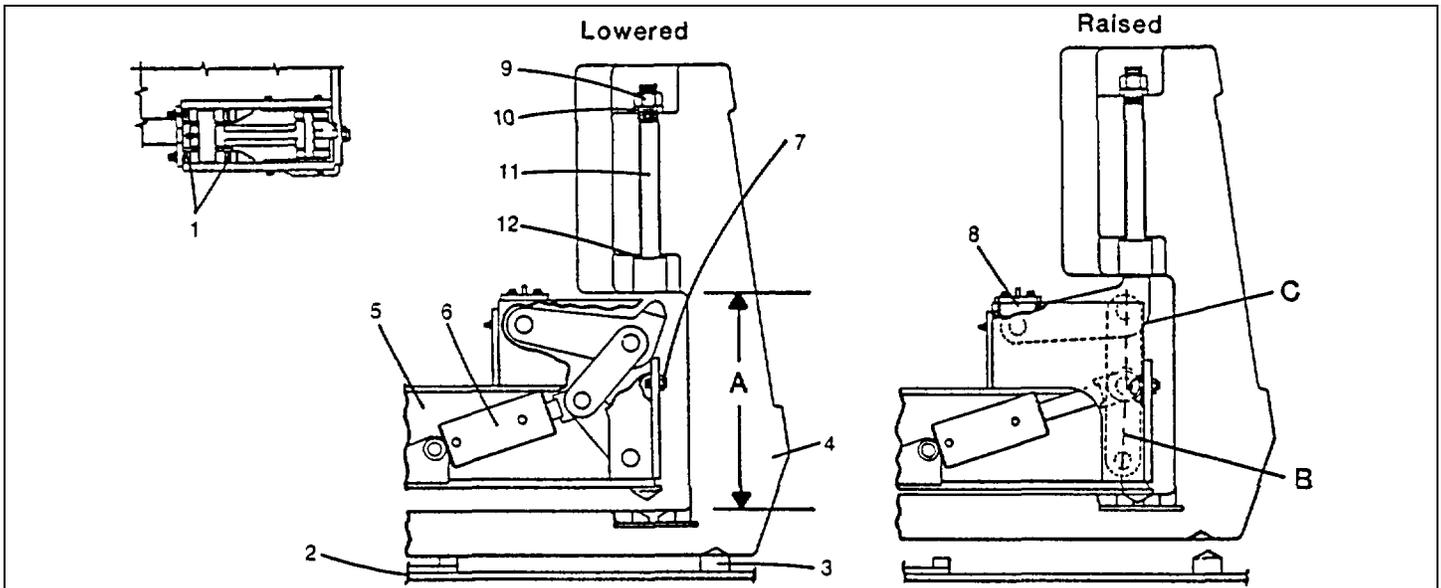

Fig. 4-5
4-8 Counterweight Remover (Fig. 4-5)
4-10 Preliminary Adjustment: (Must be made with counterweight off the machine.) (Fig. 4-5)
- (a) Before placing the counterweight on the positioning blocks, fully extend the hydraulic cylinders. Refer to page 1-26. Adjust the set screw (7) until the linkage toggles over center 1/4" (6.6mm). This adjustment is very important. Toggling over center provides a mechanical lock up which eliminates the requirement of hydraulic pressure to hold the counterweight in place. All down forces are transmitted into the linkage and set screw instead of into the hydraulic cylinders. Tighten jam nuts on the set screws after adjustment.
- (c) Check dimension "A" in Fig. 4-5. Dimension "A" measures 26-1/2" (673.1mm) from the bottom of the adjusting screw (11) to the inside surface of the counterweight. Refer to Fig. 4-5. To set dimension "A", loosen the jam nuts (9). Next add or remove shims (12) on the adjusting screws
(11). After you set dimension "A", tighten the jam nuts (9).
4-11 Final Adjustment: (Must be made with counterweight on machine.) (Fig. 4-5)